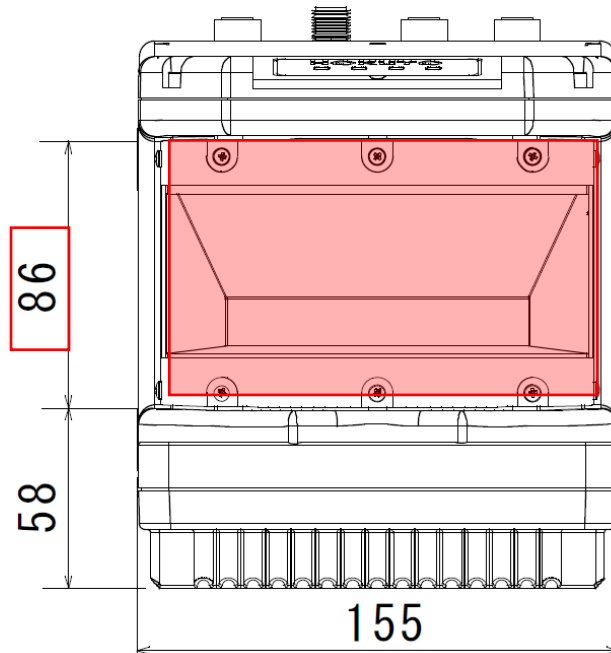

Figure 4-2 Cautions during installation
- When attaching a cover, etc. to the UGM, you must not cover the red frame as shown in figure 4-2. False detection may occur.